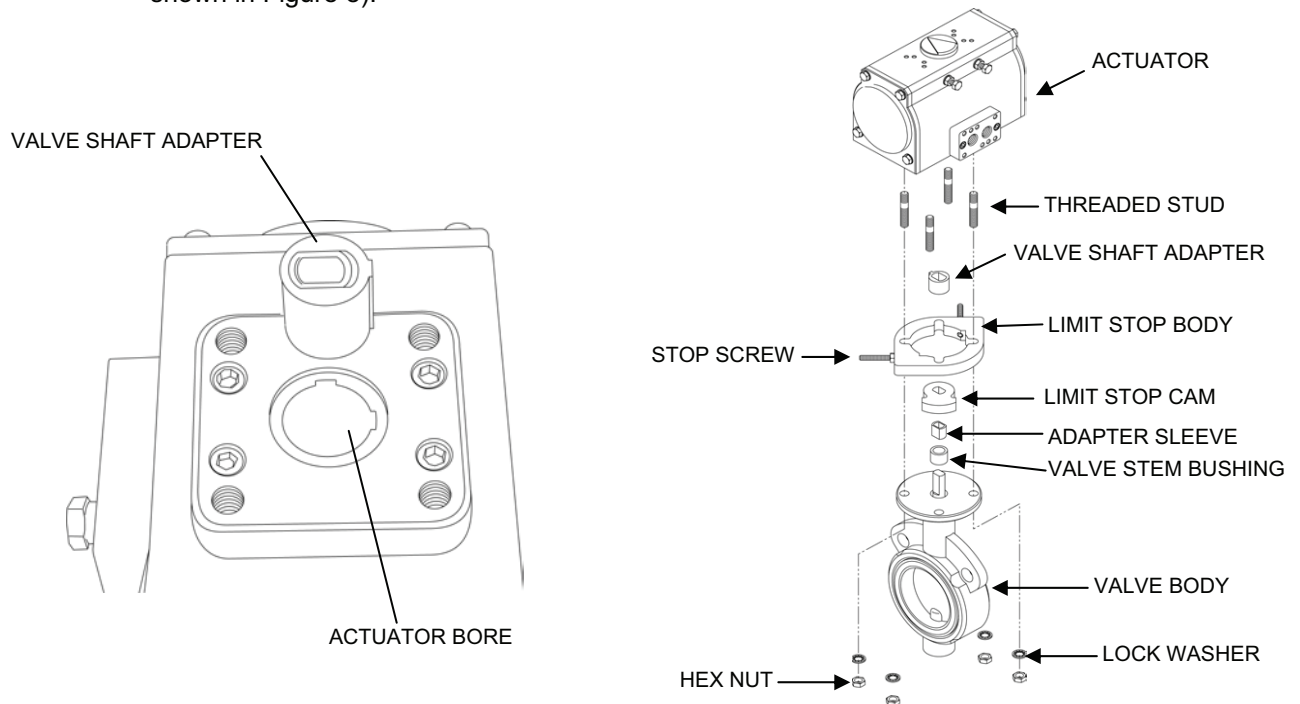

Figure 8. Valve Shaft Adapter and Adapter Sleeve Installation.
- b. Make sure the valve shaft adapter is inserted into the actuator bore so that when the valve is assembled onto the actuator, the valve body will be aligned with the actuator as shown in Figure 8).